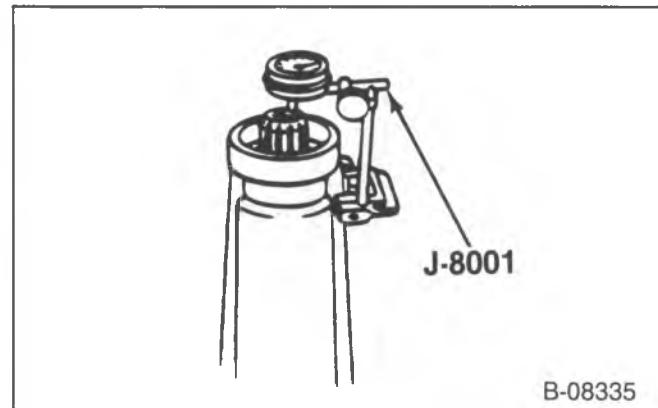

Figure 36—Measuring Mainshaft End Play
- Front thrust race (611) and a new snap ring.
- Countergear thrust bearing (612).
- Plastic funnel (615) into the bearing.
- Extension housing (613) and the screws.
- Turn the transmission on end and mount a dial indicator at the extension housing (figure 36).